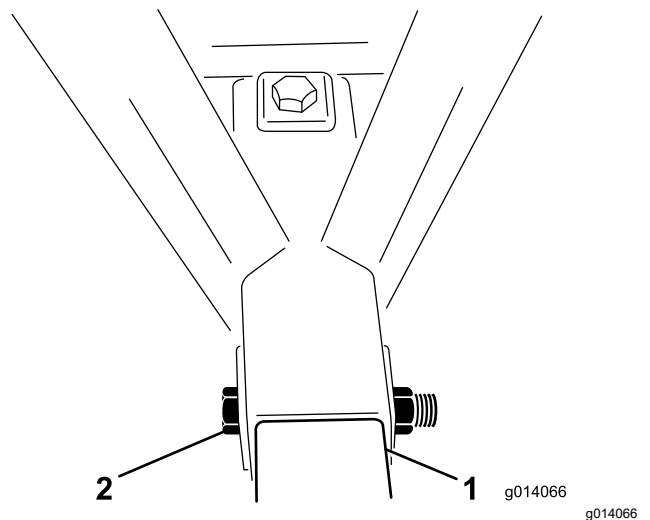

Figure 4
5. Place a bolt (1 x 6-1/2 inches) through the frame and hitch tube and secure it with a locknut (Figure 4). Torque the locknut to 976 to 1,193 N-m (720 to 880 ft-lb).
6. Place a bolt (1 x 6-1/2 inches) through the top of the frame and down through the hitch tube and secure it with a locknut (Figure 4). Torque the locknut to 976 to 1,193 N-m (720 to 880 ft-lb).